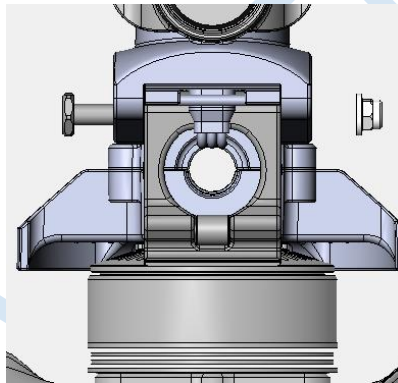

Figure 4
4) Install the M5*57.2 plug screw from the hexagon side of the 6mm hole on body's arm joint, and tighten the M5 nut on the other side to lock the plug screw as figure 4